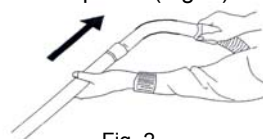

Fig. 2
- Push the extension tube into the curved wand / hose extension, as shown in the illustration below. Make sure that the extension tube locks in place. (Fig. 2)